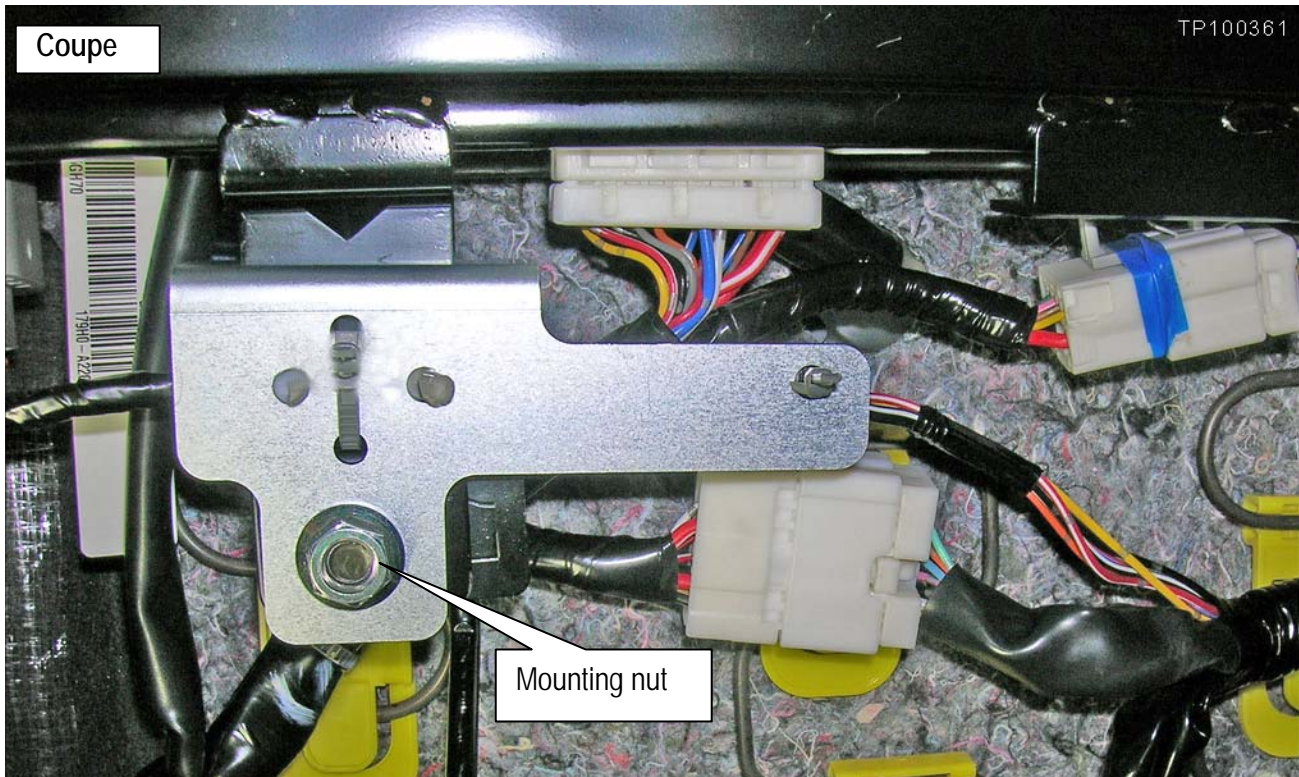

Figure 10
20. For Coupe only: Flip the new bracket over and mount it as shown in Figure 10.